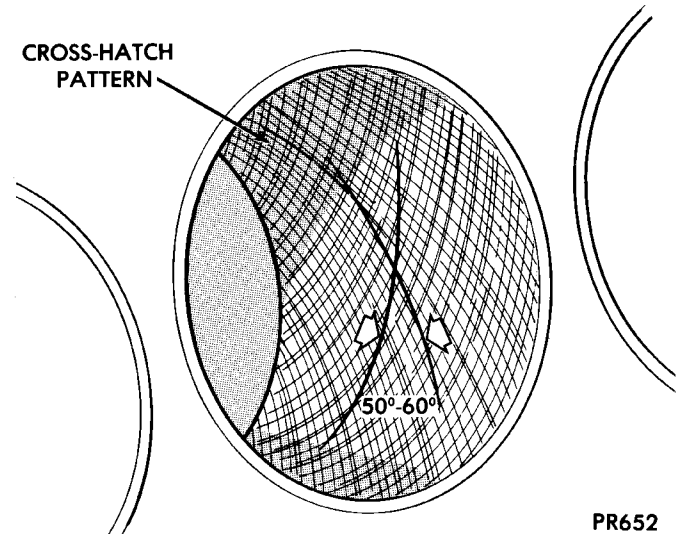

Fig. 2 Cylinder Bore Cross-Hatch Pattern
(3) Honing should be done by moving the hone up and down fast enough to get a cross-hatch pattern. When hone marks **intersect** at 50-60 degrees, the cross hatch angle is most satisfactory for proper seating of rings (Fig. 2).